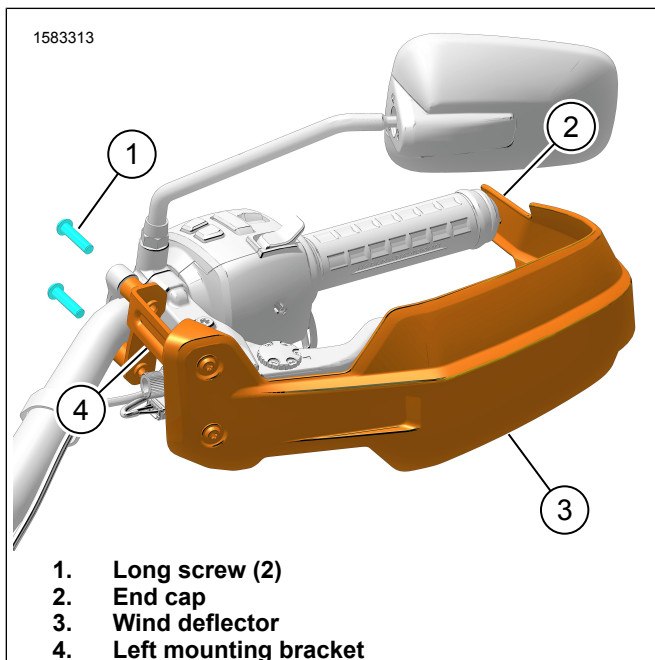

Figure 2. Wind Deflector (left shown)
1. Figure 2 Install wind deflector (3).
- a. Slide into position on end cap (2).
- b. Position left mounting bracket (4).
2. Install screws (1). Tighten.